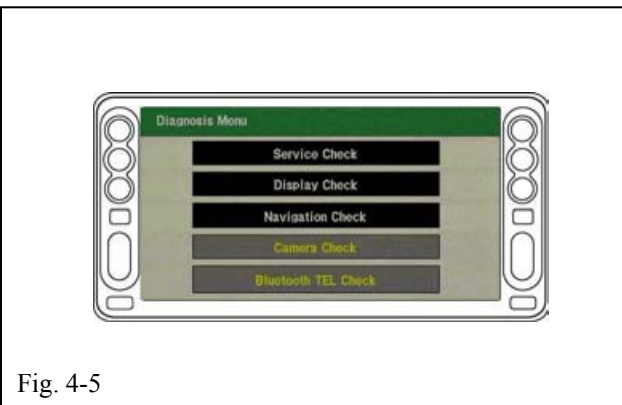

Fig. 4-5
- (e) Touch "Display Check" to display the "Display Check" screen (Fig. 4-5).